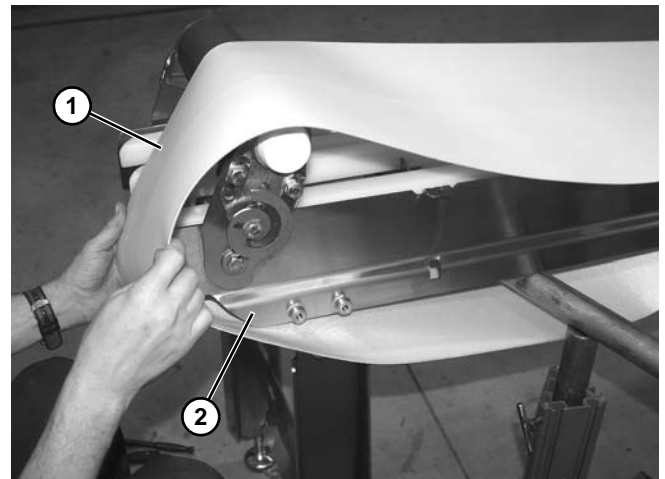

Figure 79
7. Remove the belt (Figure 79, item 1) from the conveyor (Figure 79, item 2).